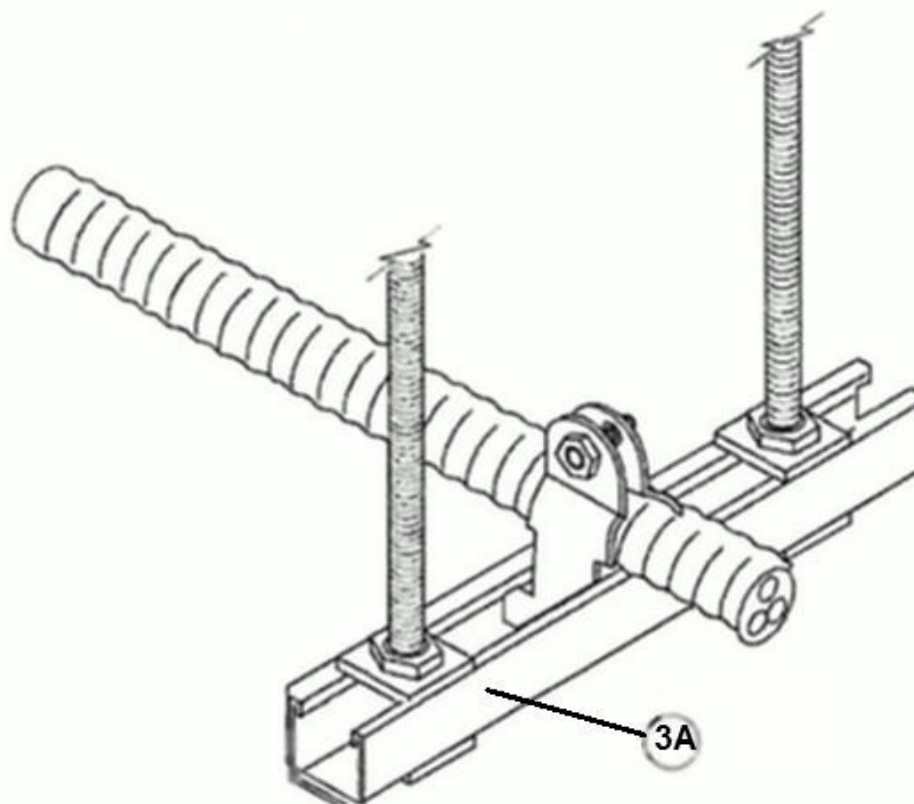

Fig. 2
3A. **Trapeze-type Supports** — (Figure 2) The MC cable(s) shall be installed on/from trapeze-type supports by item 4. The trapeze-type supports shall be secured from the surface of the floor. The supports shall be spaced a maximum of 4 ft. OC.